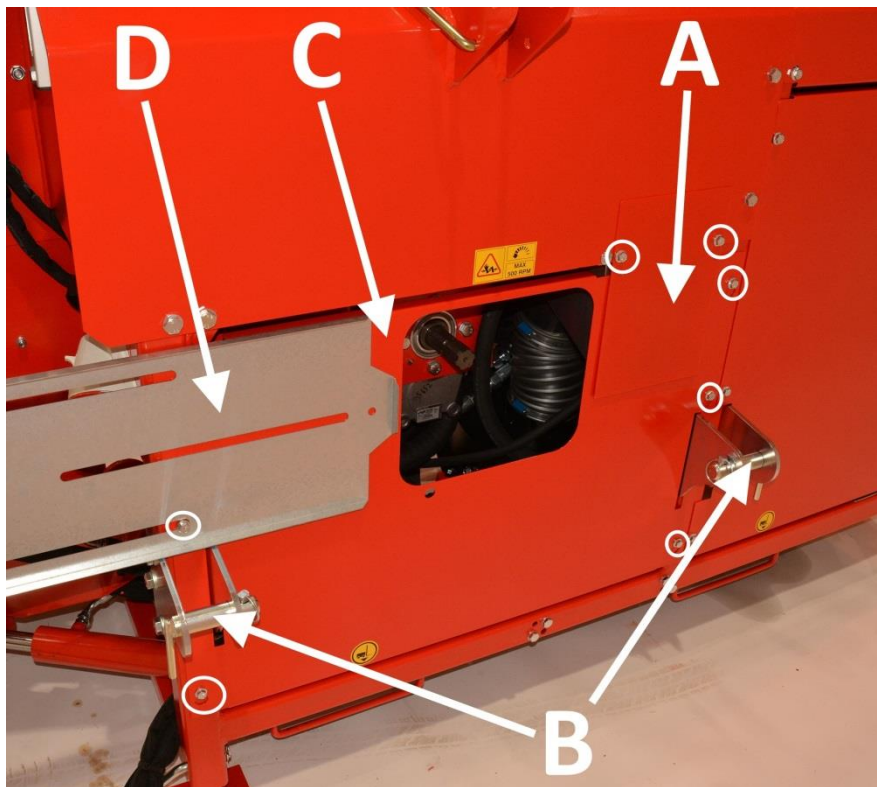

Figure 28.
1. Remove the lifting arms' pins B (2 pcs, Figure 28).
2. Remove/loosen the bolts circled in Figure 28 and remove protective plates A, C and D.
6. Put the protective plates (A, C and D) and the lifting arms' pins (B) in Figure 28 back in place.